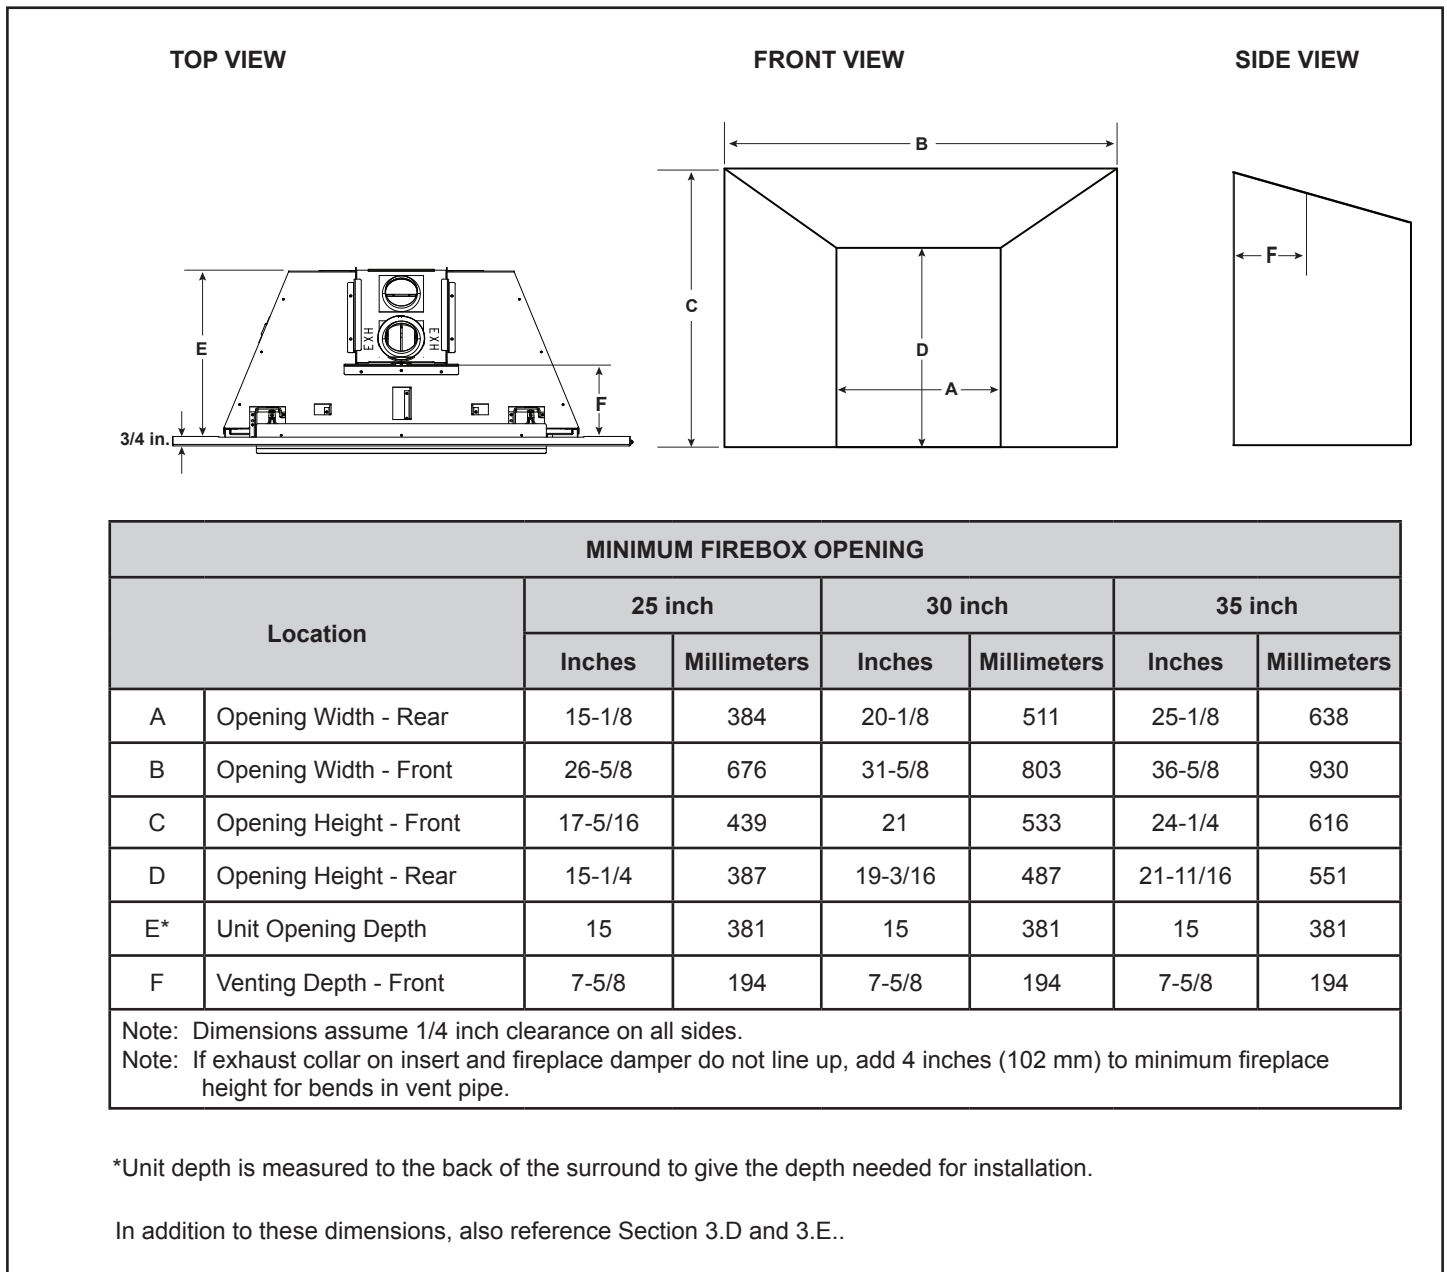

Figure 3.7 Firebox Opening - Standard Surround - 3/4 in.
***Note:** Location G is the appliance depth measurement, for installation depth reference Location E on Figure 3.7.
Minimum fireplace opening requirements for a standard 3/4 inch deep surround are shown in Figure 3.7. For smaller openings, a custom surround is available.